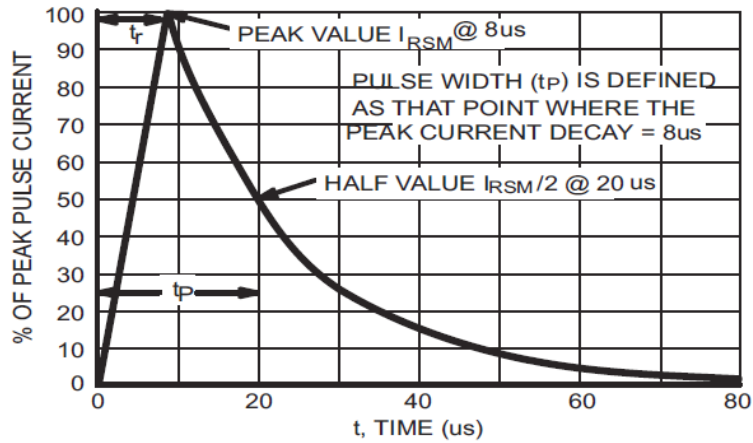

Figure 5. 8 X 20us Pulse Waveform
2. SURGE CURRENT WAVEFORM PER FIG 5.